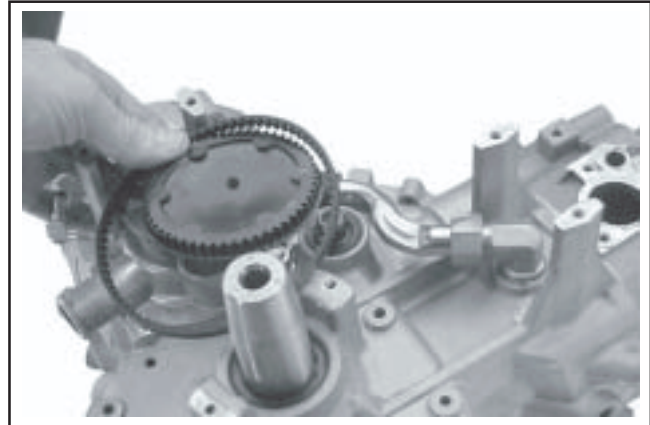

Figure 9-46. Removing Cam Pulley and Belt.
- Carefully lift the pulley off the camshaft and remove the belt from the water pump pulley. See Figure 9-46.